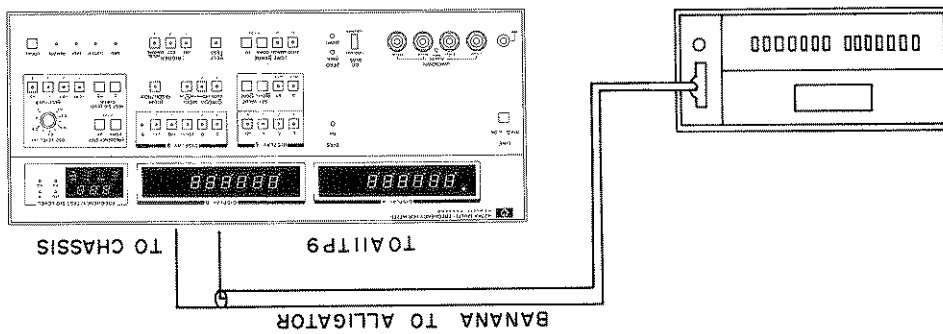

Figure 5-1. A11 Power Supply Voltage Adjustment.
- b. Connect voltmeter plus input to A11TP9 and minus input to 4274A chassis with dual banana-to-alligator clip cable. See Figure 5-1.